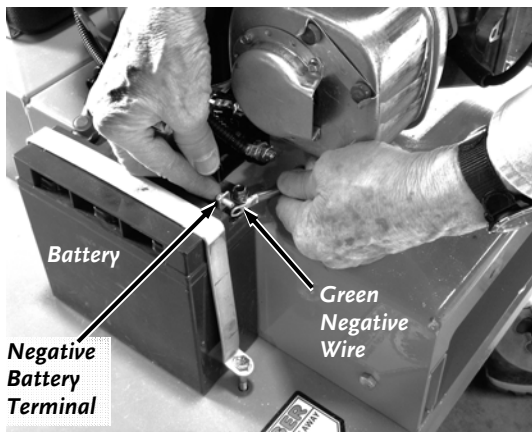

Figure 2
1. Connect the Green negative wire to the negative terminal on the Battery with two 5/16" Wrenches (**Figure 2**).